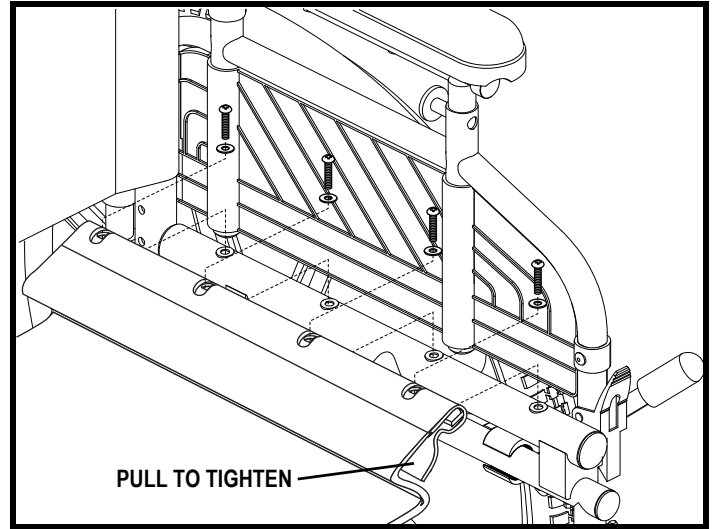

Figure 27. Seat Tension Adjustment
1. Loosen the screws that attach the seat to the side rail on the left side (side with hook and loop fastener). See **figure 27**.